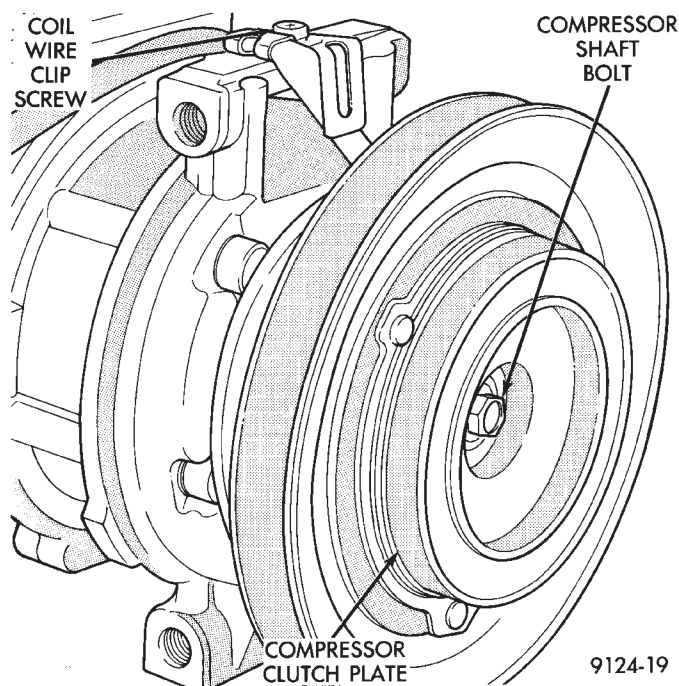

Fig. 1 Compressor Shaft Bolt and Clutch Plate
- (1) Remove the compressor shaft bolt (Fig. 1). A band type oil filter removal tool can be placed around the clutch plate to aid in bolt removal.